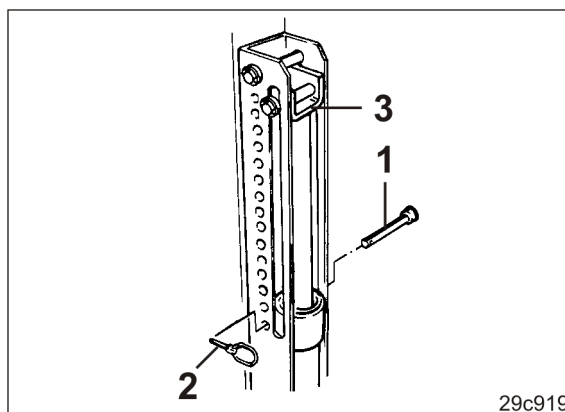

Fig. 176
3. Insert the pin (Fig. 176/1) below the stop (Fig. 176/3) into a hole in the group of holes and secure it with a linch pin (Fig. 176/2).